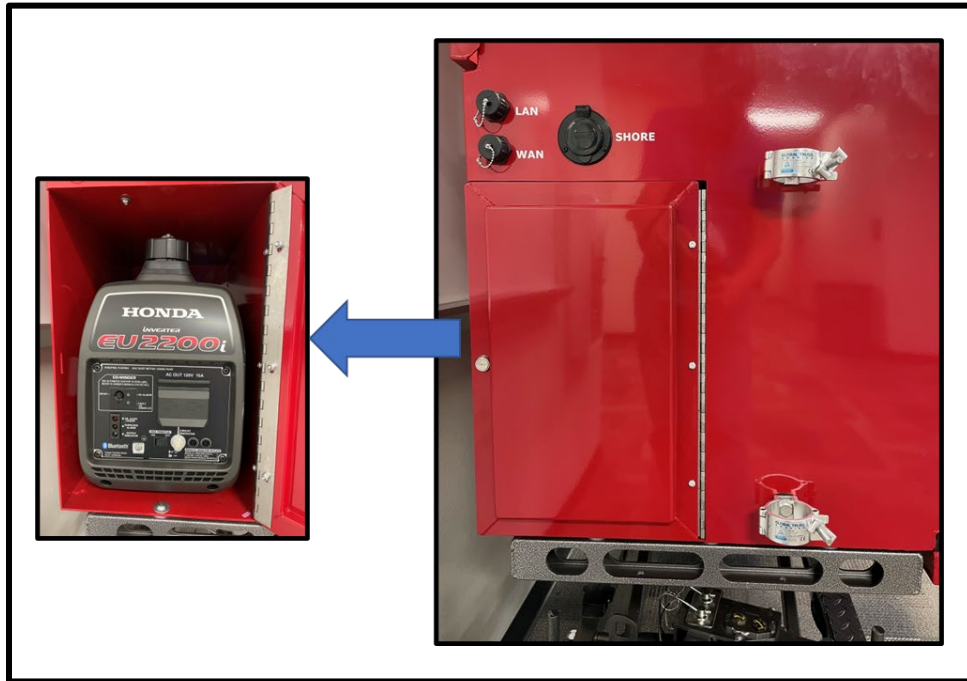

Figure 1. Generator Access Door
1. Unlock the generator access door located on the left side of the Command Runner. Refer to Figure 1 for access door location.